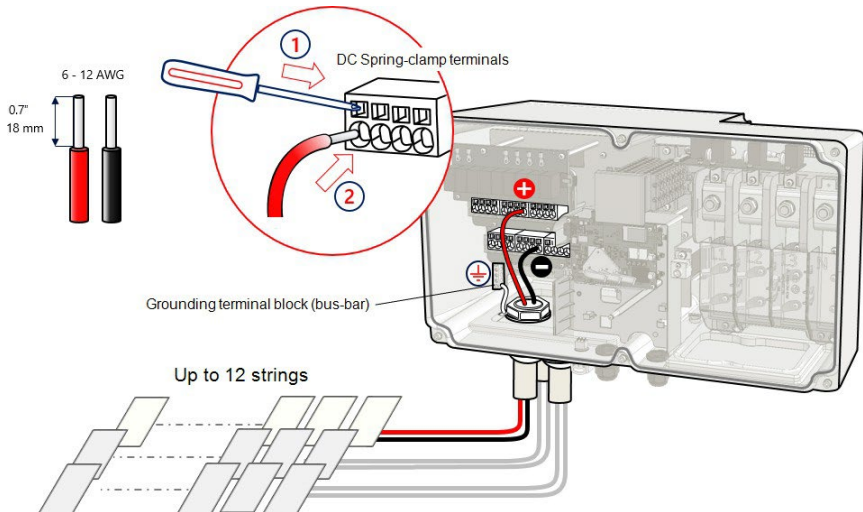

Figure 23: Connecting PV strings to a Synergy Manager with spring-clamp DC terminals
- c. Insert the wire into the top opening (see *Figure 23*).